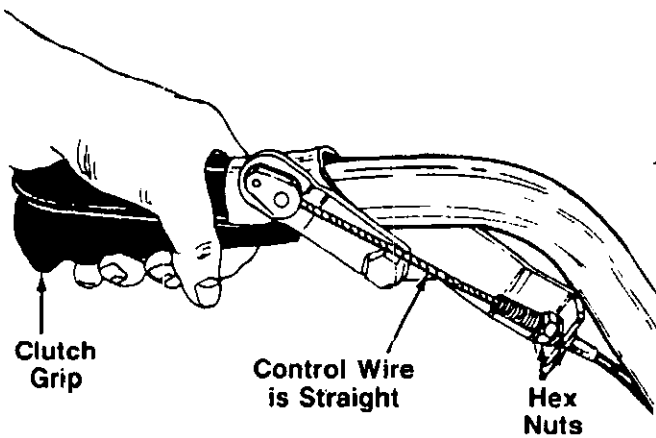

FIGURE 10.
- d. With the clutch lever released (in the "up" position), adjust the bottom nut at the cable bracket so there is only a slight amount of slack in the control wire. Tighten the upper nut against the bracket. Squeeze the clutch lever against the handle. The control wire should now be straight. See figure 10.